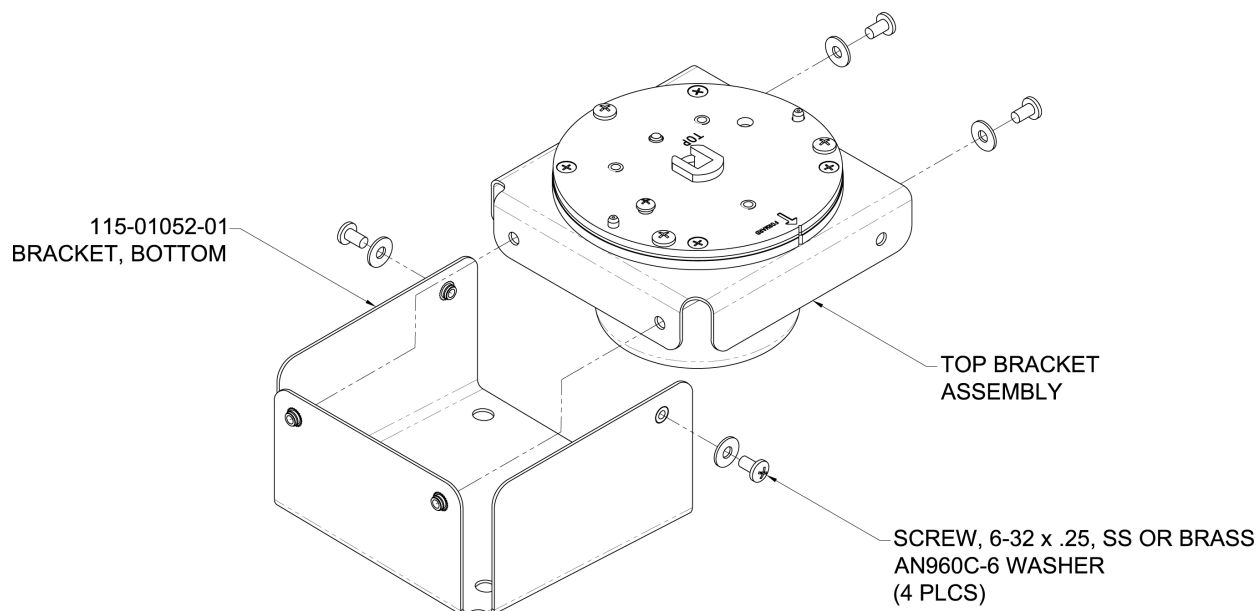

Figure A-6 Lancair IV/IV-P GMU 22 Mounting Bracket
3. Attach the Top Bracket Assembly (115-01052-00) to the Bottom Bracket Assembly (115-01052-01) as shown in Figure A-6.